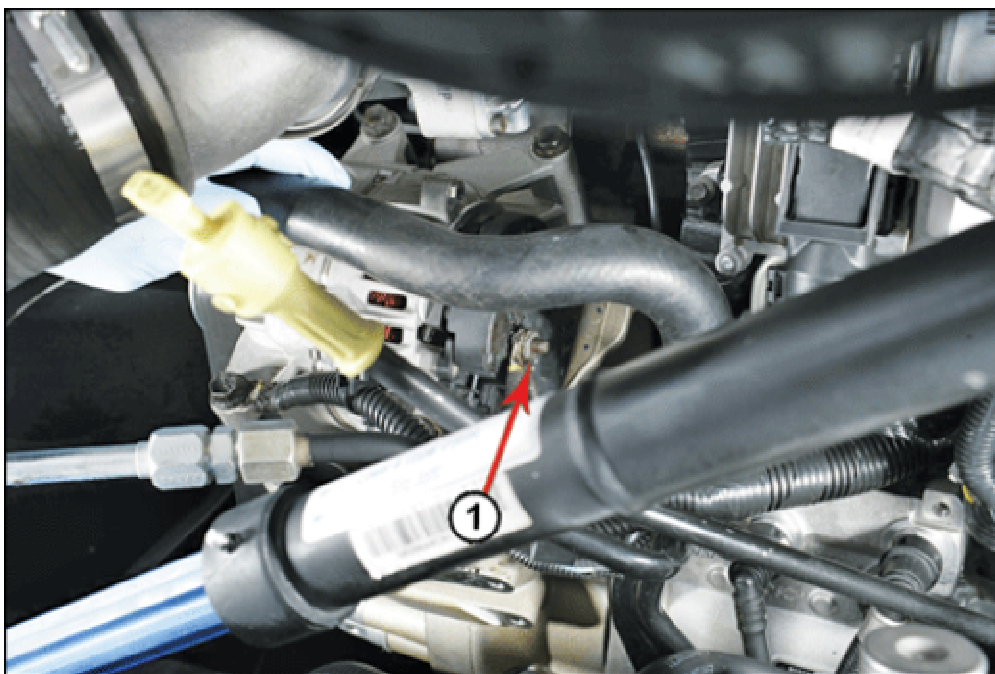

Figure 5
5. Remove the alternator harness attachment nut (Figure 5).